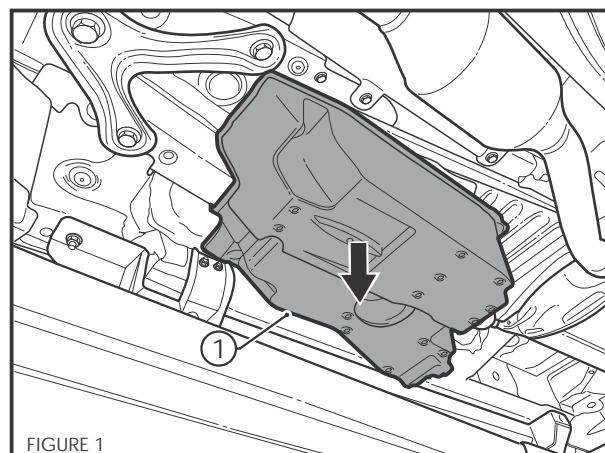

FIGURE 1
- Remove the plastic undercover (1) as shown in Figure 1.